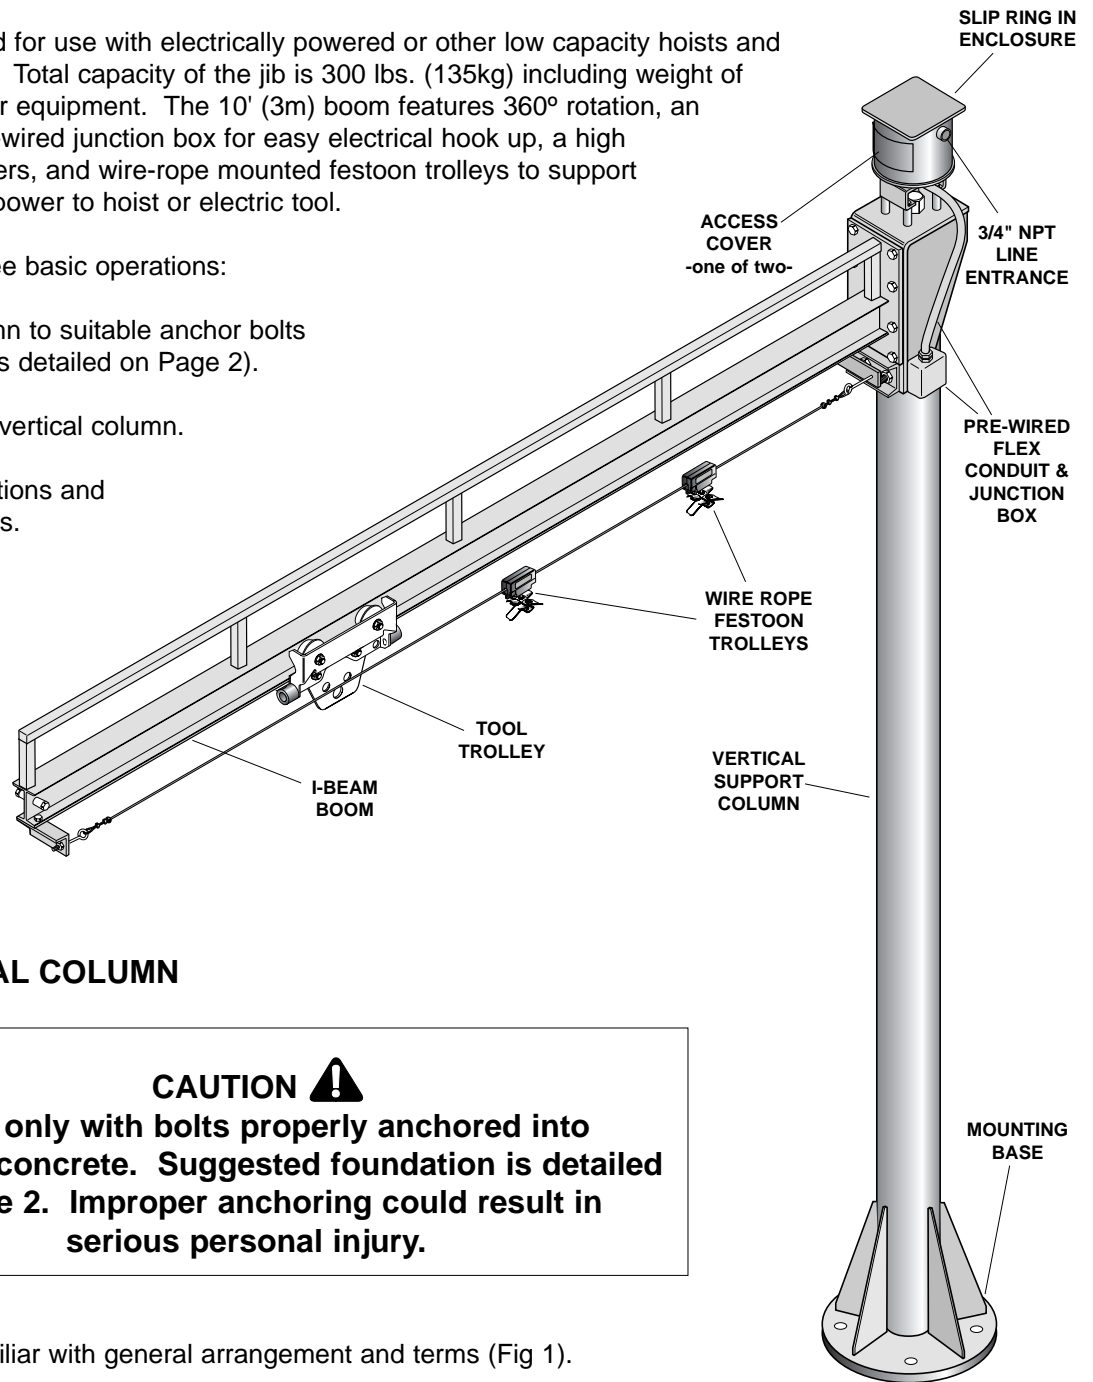

Fig. 1
1. Become thoroughly familiar with general arrangement and terms (Fig 1).
10. Provide rigid conduit to 3/4" line entrance on slip ring enclosure. Refer to Fig. 1 for location. **NOTE: Rigid conduit is required to prevent enclosure rotation during jib use.** Enclosure may be rotated to facilitate conduit installation but must be held stationary when jib is in use. Run cable through conduit and connect input leads to proper slip ring terminals.